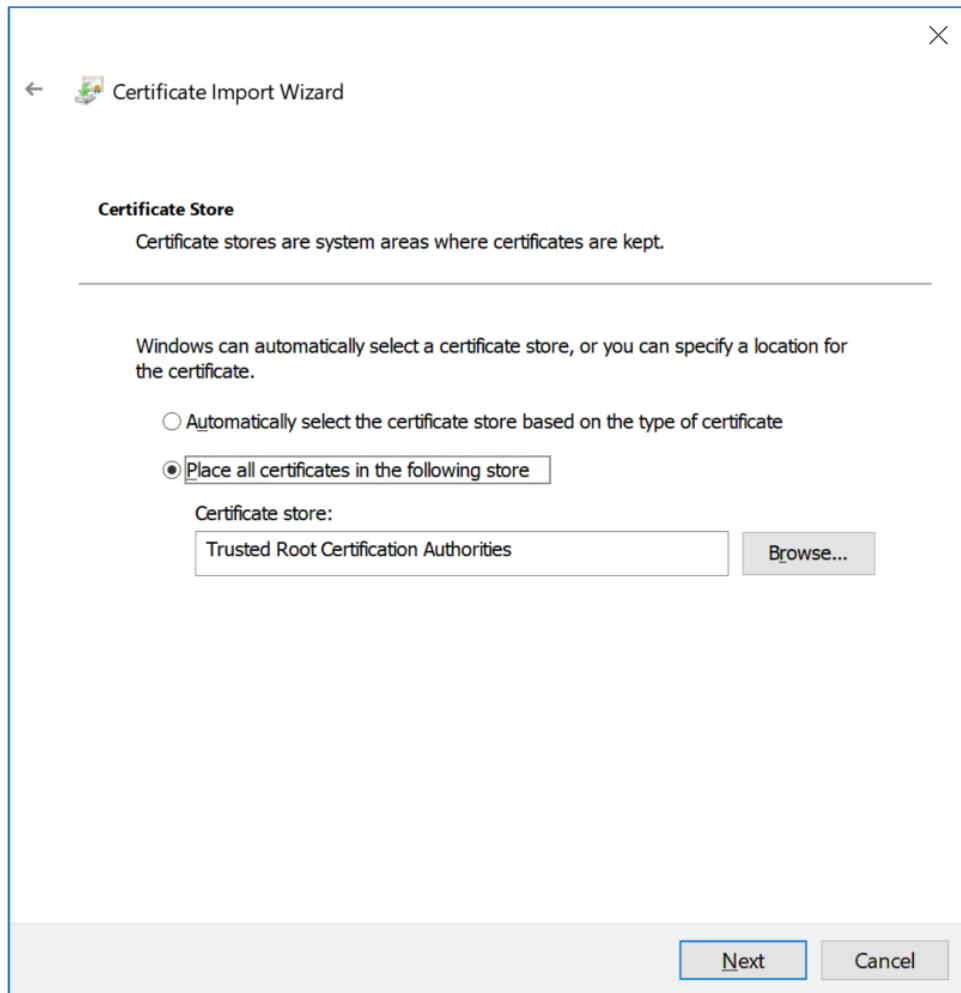

Figure 340: Windows Certificate Import Wizard-Choose Certificate Store
8. Click on the Browse button, then select “Trusted Root Certification Authorities.” When the Certificate Store parameter completes, click on the Next button. The Certificate Store screen is shown in Figure 340.